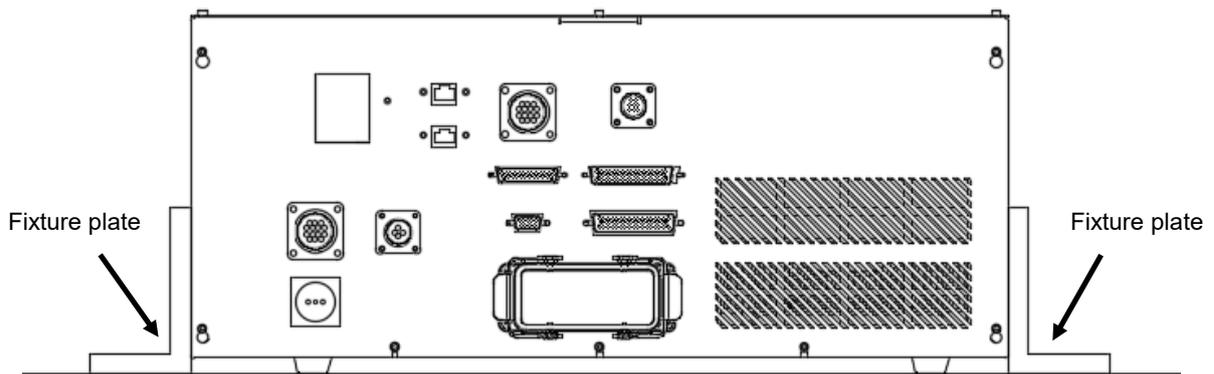

Figure 2.9 Controller fixture method
5. When fixing the controller in place, please do as shown in Figure 2.9 below and use 2 L-shaped plates to fix the controller tightly in place.